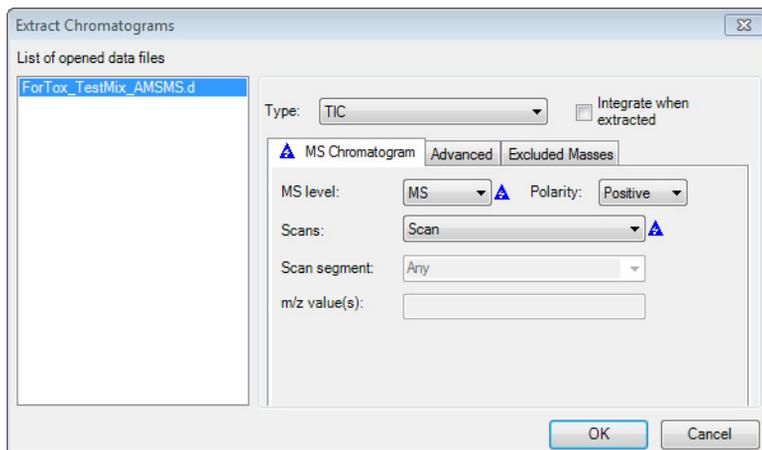

Figure 34 Extract Chromatograms setting for MS.
- e For **Scans**, select **Scan**. See Figure 34.